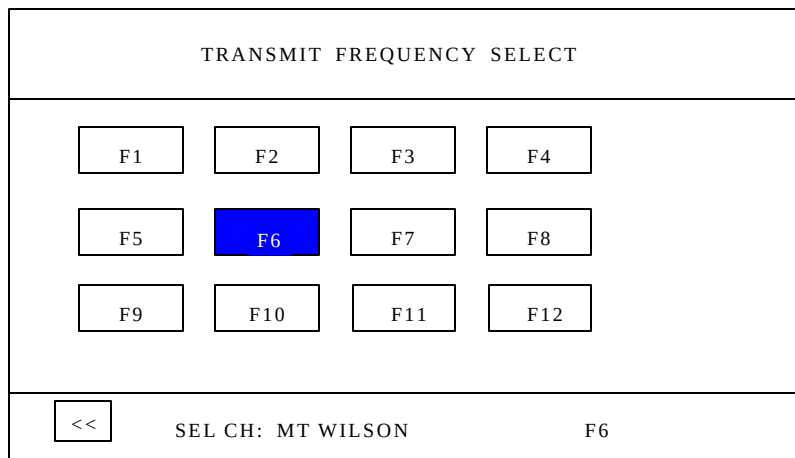

Figure 4.7 Function Tone Select Menu
**">>>":** Displays all available function tones, F1 through F12 (Figure 4.7). This icon does not appear if F5 through F12 are disabled in the system programming (Refer to the System programming section for programming Function Tone Parameters).